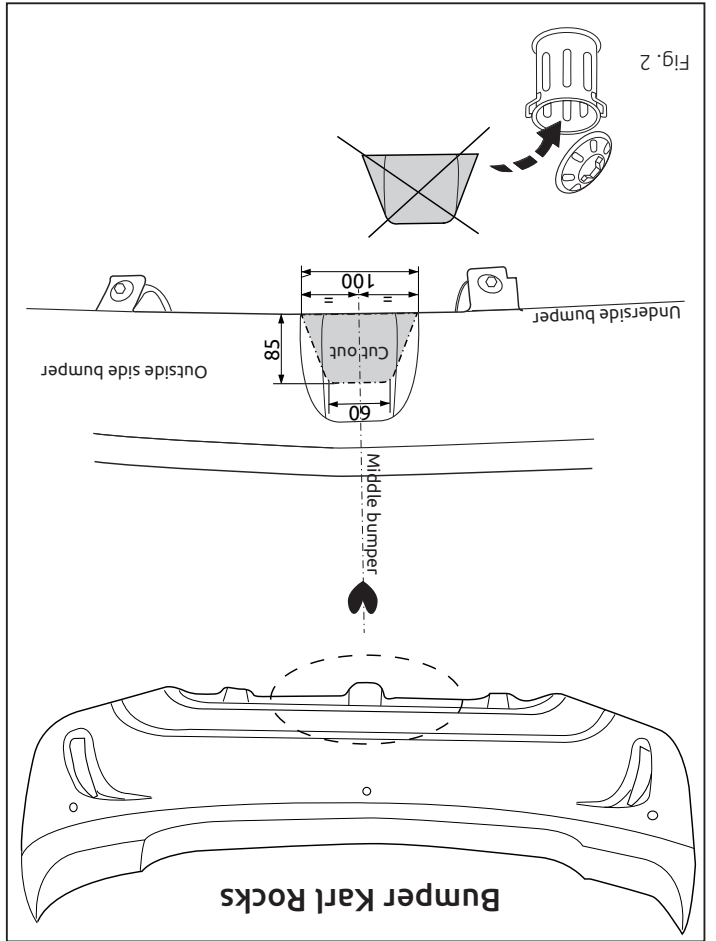

Fig. 2
6. **For Rocks vehicles, the following applies:** Saw out the portions as indicated in fig. 2.
7. **For Karl vehicles, the following applies:** Use the Brink smart position indicated in fig. 2.
6. **Für Rocks-Fahrzeuge gilt:** Gemäß Abb. 2 die angegebenen Teile heraussägen.
зано на рис. 2.